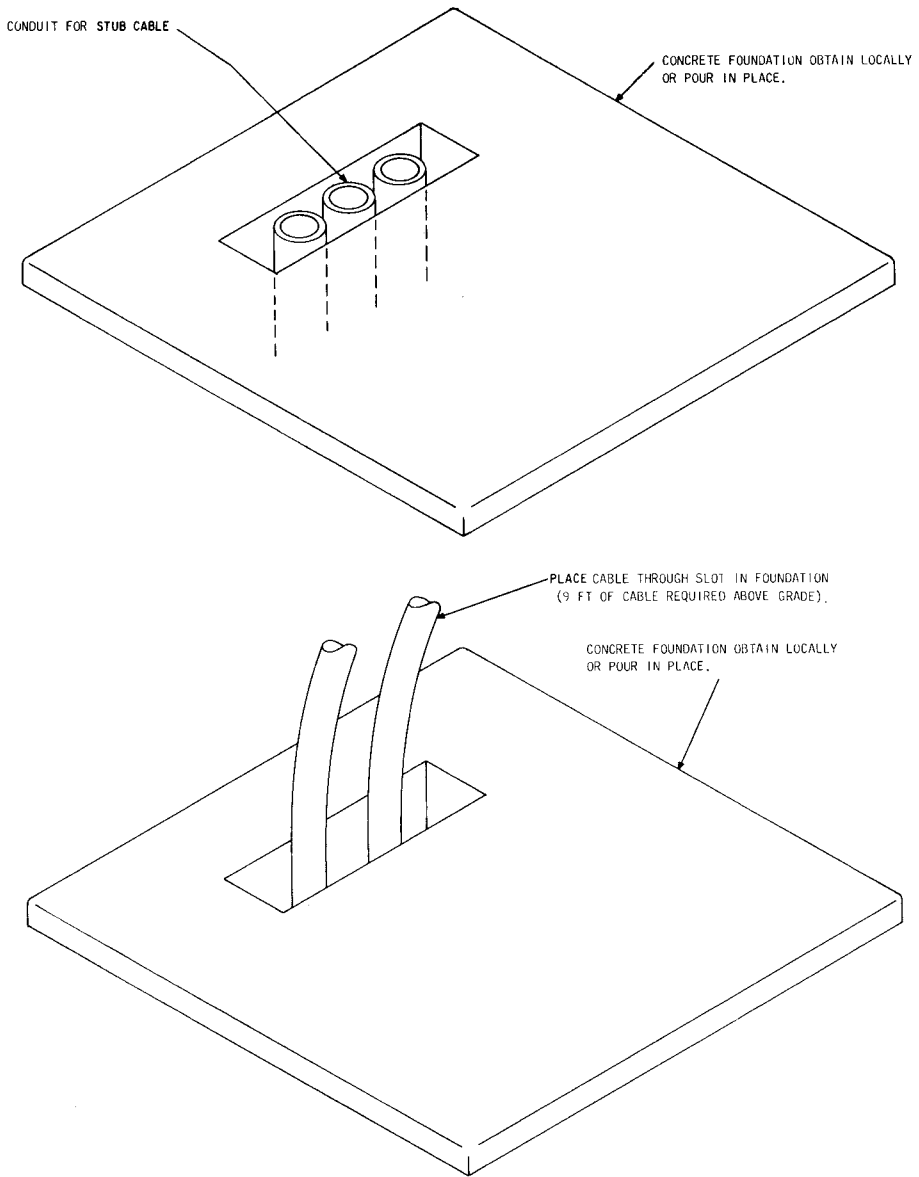

Fig. 4 — Placed Concrete Foundation
4.03 Position the foundation as shown in Fig. 4.